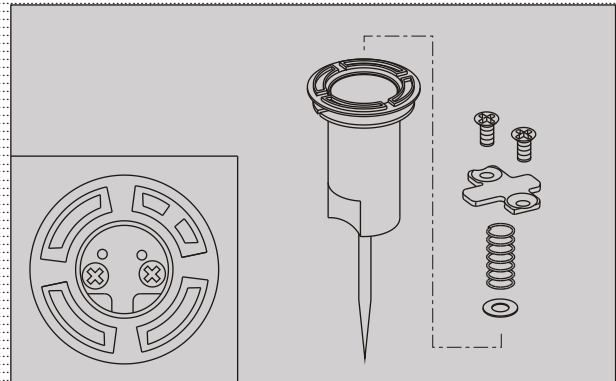

Fig. 4.29
- Remove screw plate jet needle (2 nos.) and take out plate jet needle, spring jet needle and packing jet needle. (Fig. 4.29)